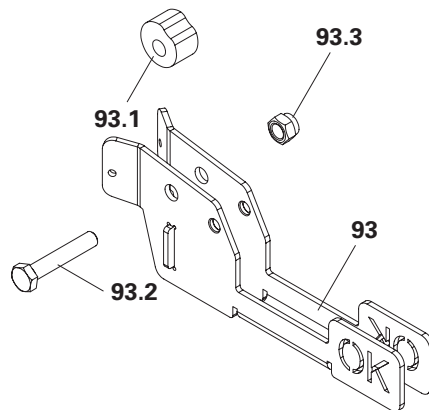

Fig. C5.09
1. Dismantle the adaptor (**93.1**), bolt ISO 4014 M8 x 45-8.8 (**93.2**) and nut ISO 7040 M8-8 (**93.3**) of the Visual Aid Climbing Shoe RCS (**93**). (Fig. C5.09)